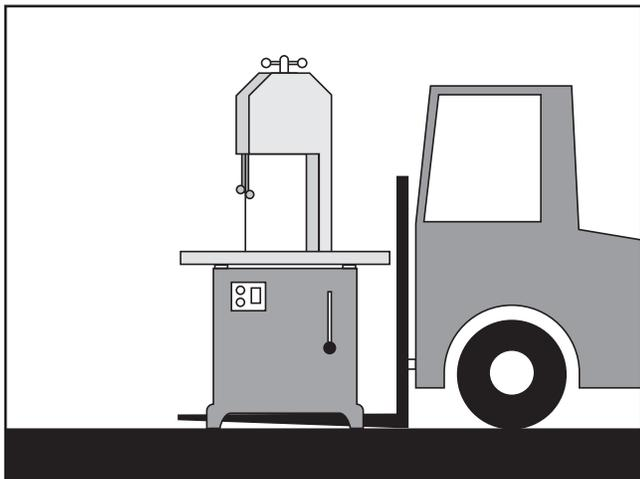

Figure 5. Lifting bandsaw on forklift forks.
2. Position the forklift forks under the bandsaw base, as shown in **Figure 5**.